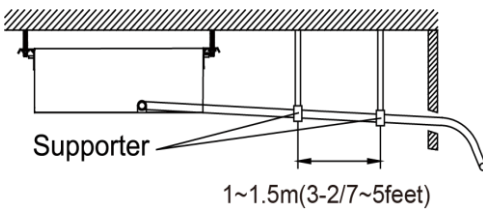

Fig. 4.21
- (3). When the hose is long, install supporters (Fig. 4.21).
- (4). Always use the drain hose which has been insulated properly.